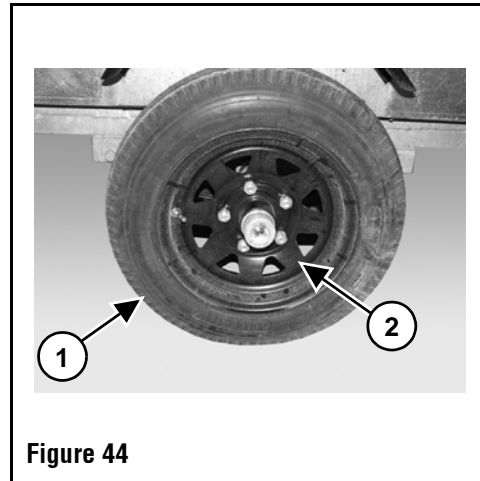

Figure 44
4. Check the tire (Item 1) for proper inflation and obvious damage. **(Figure 44)**
5. Check the tire rim (Item 2) for loose lug nuts and obvious rim damage. **(Figure 44)**